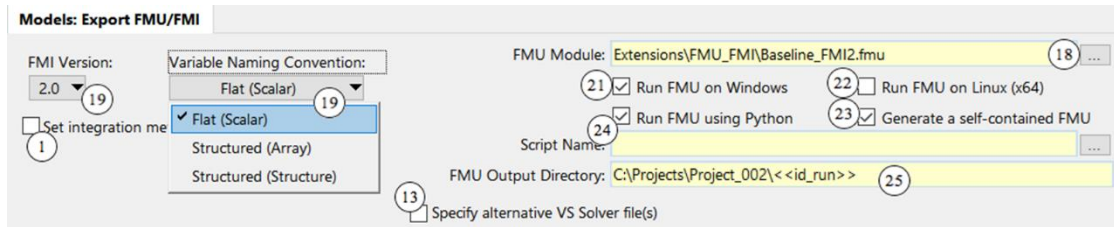

Figure 16. Top of the Models: Export FMU/FMI library screen.
This screen adds controls (18) - (25) that support the creation of FMUs (Figure 16); they are described below.